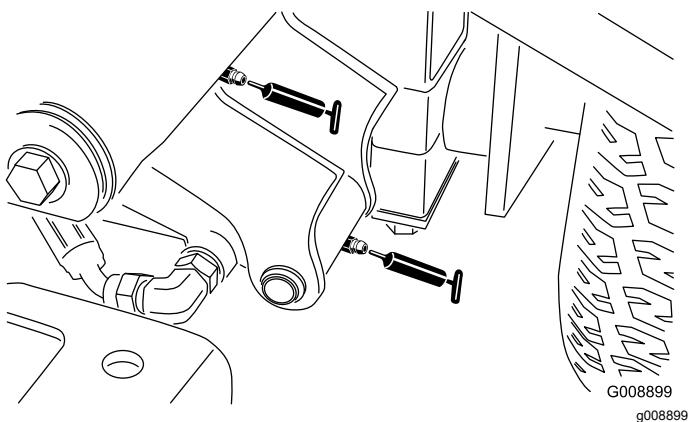

Figure 36
- Left front lift arm pivot and lift cylinder (2) (Figure 36)